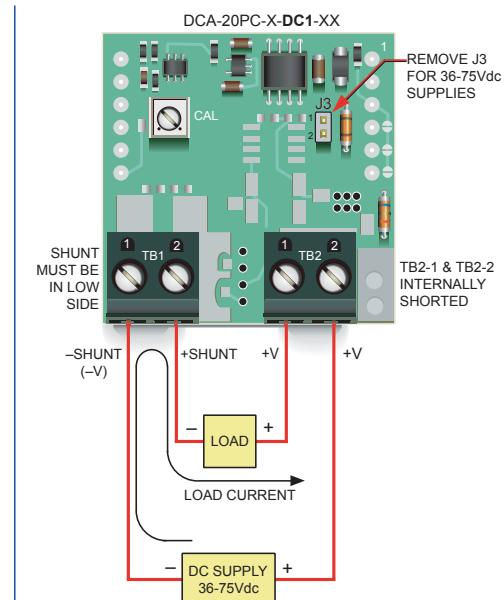

Figure 3. Low-Side Shunt Connections for "-DC1" Models Modified for 36-75Vdc Non-Isolated Power (See Technical Note 6)
6. Operation With 36 to 75Vdc Power: As shipped, all '-DC1' models' rated operating supply range is +5 to +40Vdc. However, '-DC1' models can be user configured for 36 to 75Vdc operation by removing (opening) jumper J3. Please note that this modification can only be performed on '-DC1' power models. Also, all '-DC1' models – including those that have been modified for 36-75Vdc operation – can only be connected in low-side, grounded-shunt applications. See Figure 3 for